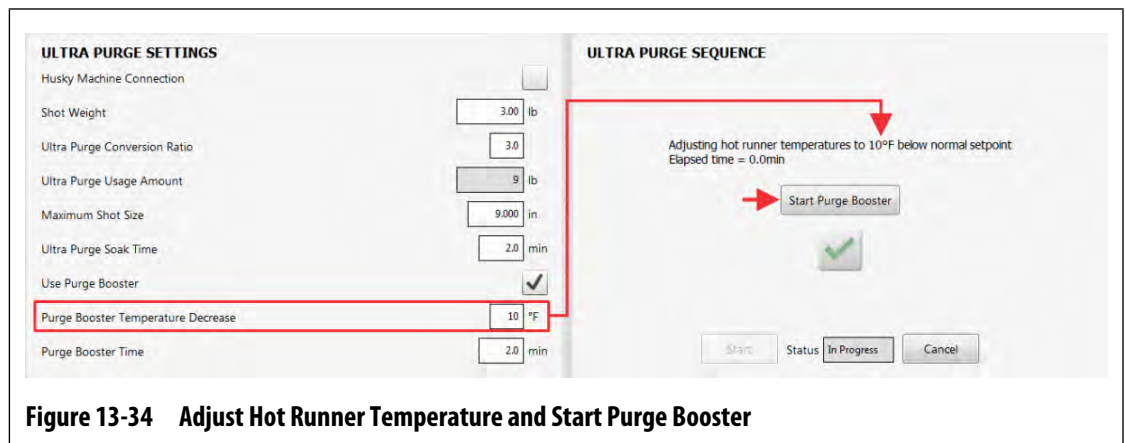

Figure 13-34 Adjust Hot Runner Temperature and Start Purge Booster
- Adjust the hot runner temperature to $x^{\circ}\text{F}$ ($x^{\circ}\text{C}$) below the normal setpoint (refer to Figure 13-34).